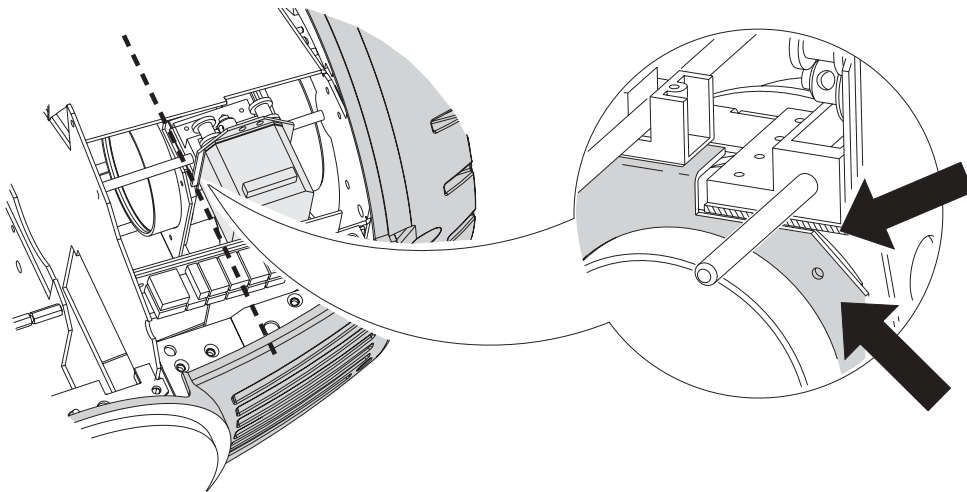

Figure 11: Zoom calibration point
- 2 To calibrate zoom, first remove the bottom head cover. Select `UTIL / CAL / ZOO` and press [Enter]. Adjust the offset until the face of the zoom lens plate is flush with the back edge of the focus plate (Figure 11). Press [Enter] to save the setting. Replace the bottom head cover.